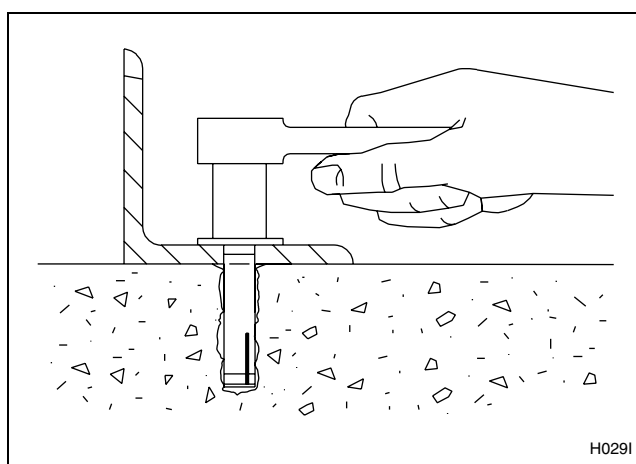

Figure 12
8. Secure the machine to the floor, using the bolts furnished with the anchors. Tighten the locknuts by even increments – one after the other – until all are tightened evenly and the machine is fastened securely to the floor. Refer to *Figure 12*.